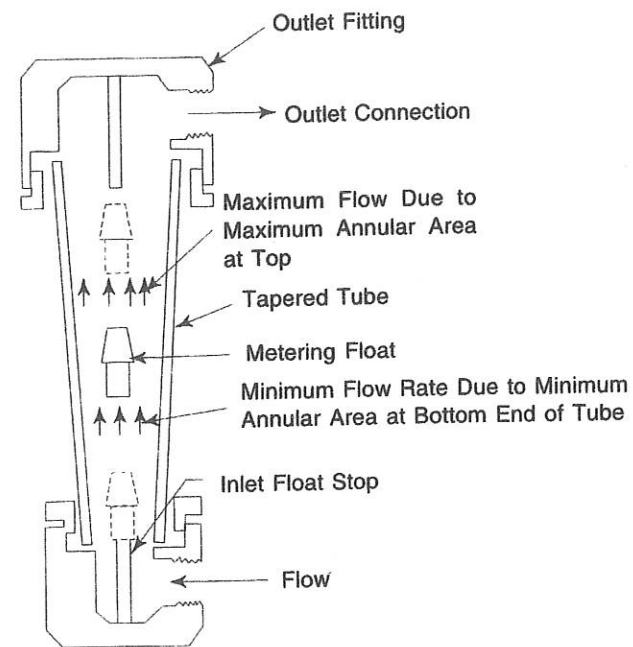

Figure 3.0/Rajah 3.0
- CLO1 C3 (d) Explain the working principle and characteristics of the instrument in **Figure 3.0**.